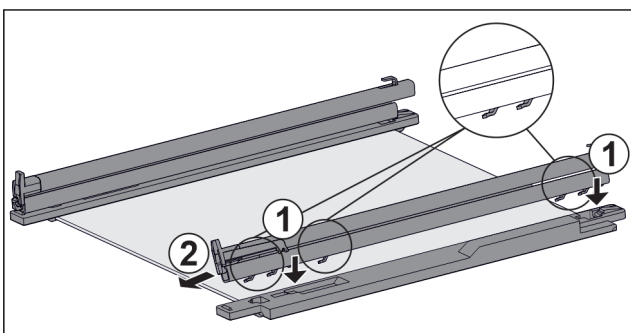

Fig. 50 Glass shelf with rails and retaining parts
- Place rail hooks onto the openings of the **left** retaining part. Fig. 50 (1)
- Push rail forwards. Fig. 50 (2)
- Place rail hooks onto the openings of the **right** retaining part. Fig. 50 (1)